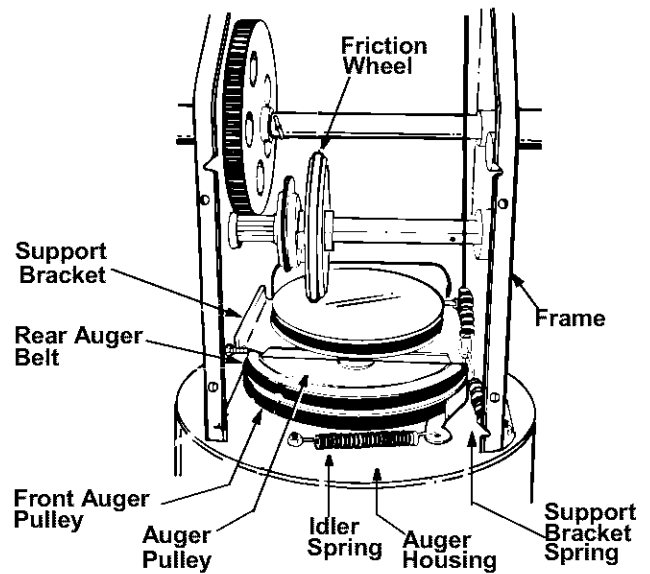

Figure 18
- Unhook the idler spring from the hex bolt on the auger housing. See Figure 18.
- Lift the rear auger belt from the auger pulley, and slip belt between the support bracket and the auger pulley. See Figure 18. Repeat this step for front auger belt.